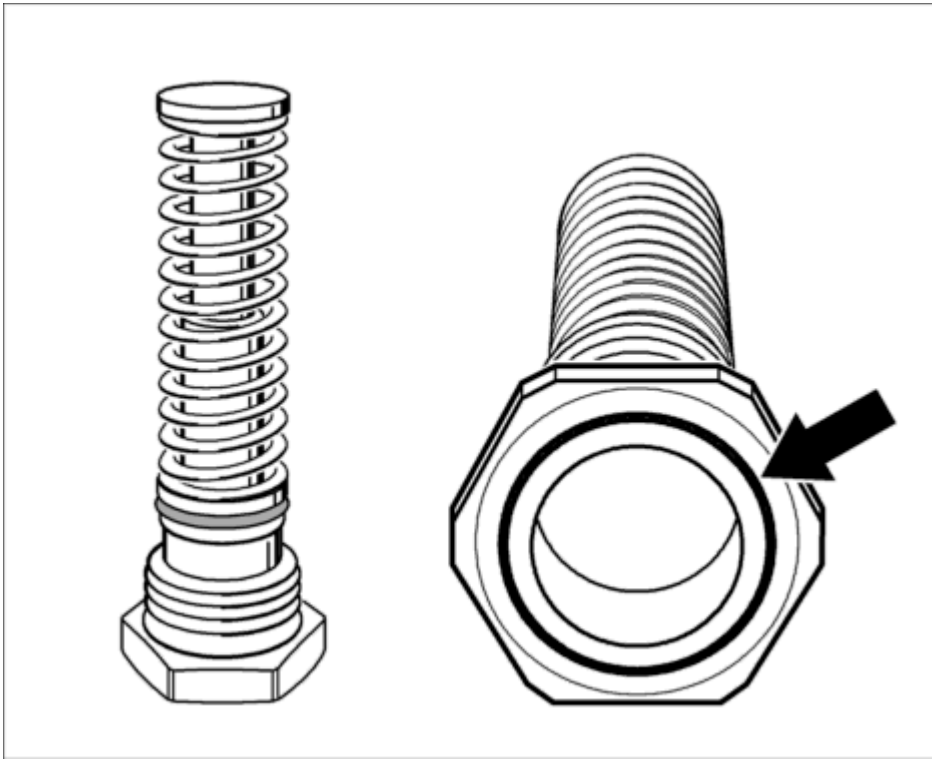

Fig. 11: Primary chain tensioner
- Primary chain tensioner on crankcase (oil filter area), identification: **one ring -Arrow-** . See **Fig. 11**.